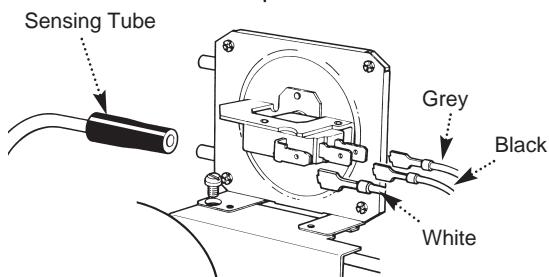

Fig. 112
10.9 Pressure Switch (Fig. 112)